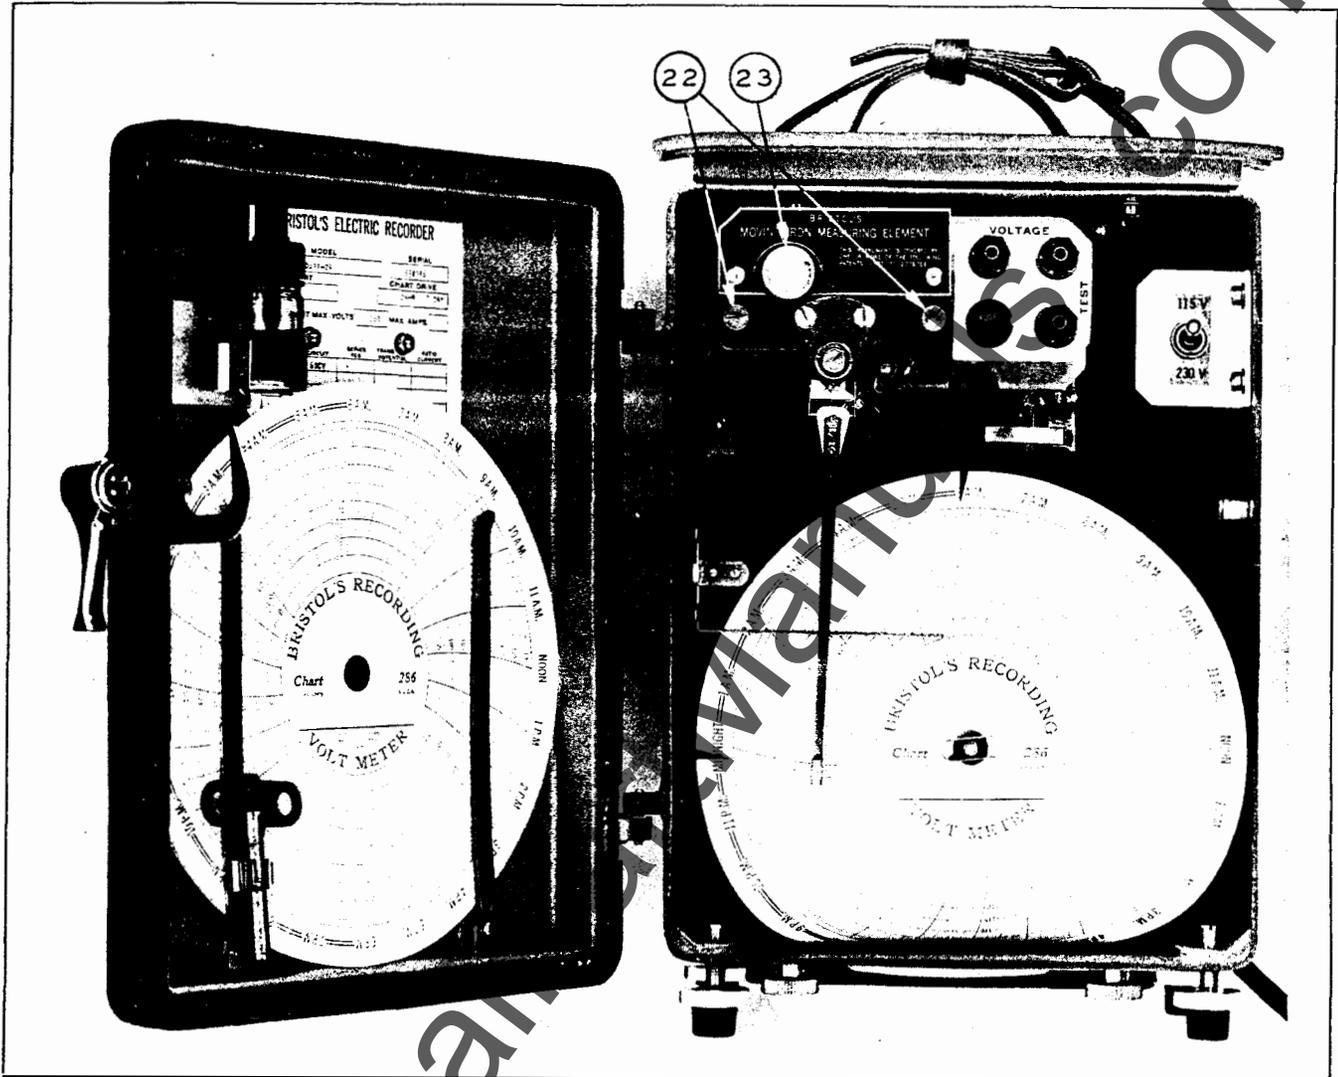

FIGURE 4. SINGLE-PEN DOUBLE-RANGE POLE-MOUNTED VOLTMETER MODEL IU3D631-24
2. Balancing Procedure. See Figures 4 and 5 for location and identification of item numbers referred to below.
a. Loosen screw (2). Remove screws (22) and top-bearing plate. Lift armature assembly until it clears bottom bearing. Turn armature clockwise until vane (20) clears magnet (21) and then lift armature out of movement.
b. Visually line up the moving iron (11) parallel to shaft (16). Loosen the counterweight and vane assembly set-screw slightly so that assembly may be twisted on the shaft but will not slip of its own weight.
c. Mount the armature between a set of knife edges or bearings. Tighten screw (4) so that pen arm and pen will not fall out of position when the armature is rotated. Fill pen half full of ink.
d. Swing the armature so that counterweight (19) is horizontal. Loosen counterweight locking nut. Screw counterweight in or out as required until the armature will stay in position when released. **Note:** The side counterweights (17) on a 25-cycle movement should not be disturbed.
e. Swing the armature so that counterweight (19) is vertical. Twist
CODE TO FIGURES 4 AND 5